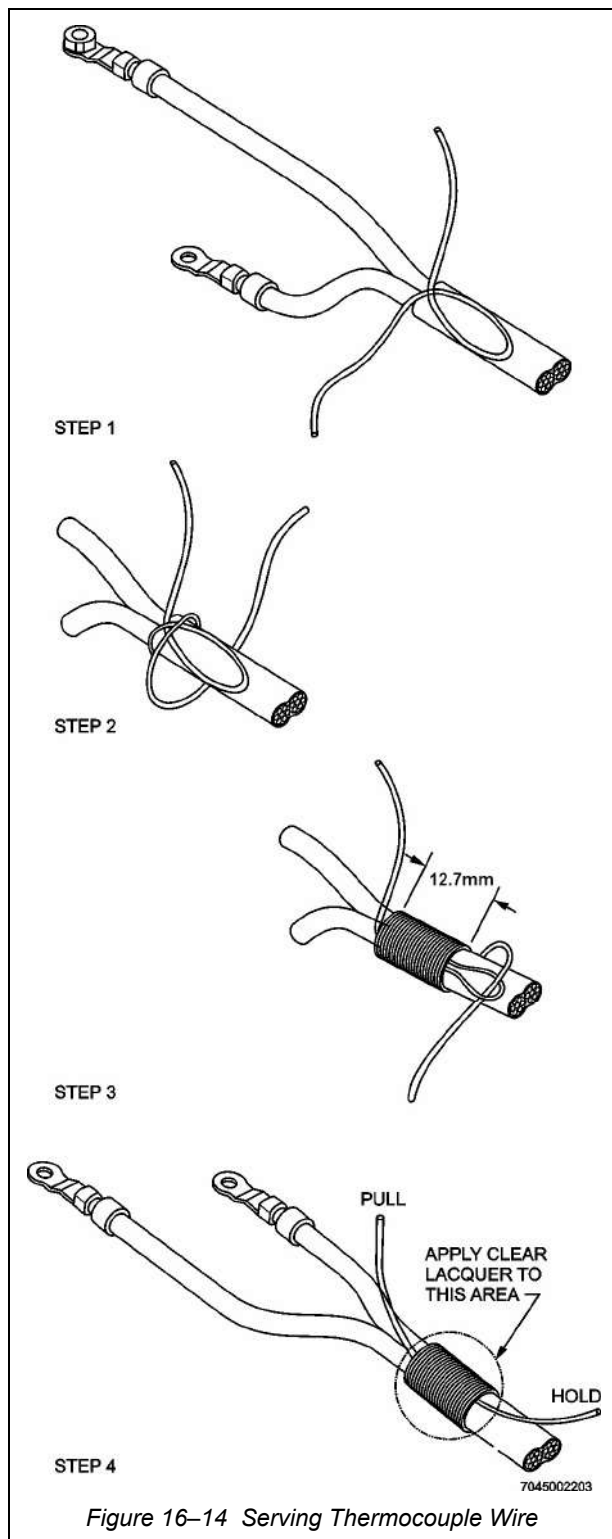

Figure 16-14 Serving Thermocouple Wire
21. After soldering operation has been completed, and solder has cooled, serve thermocouples at the branching point as shown in Figure 16-14. Use nylon or waxed cotton cord in cool areas, and fibreglass cord in hot areas. Coat the serving with clear lacquer. The serving will prevent unravelling of the outer jacket.